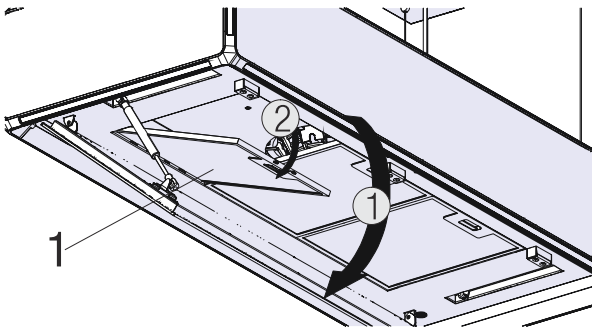

Fig. 34: Removing the metal oil filters
1. ➤ Open the side aspirator (Fig. 34/1).
3. ➤ Open the lock of the metal oil filter (Fig. 34/2) and ensure that it will not fall.
4. ➤ Tilt the metal oil filter forward and lift it out (Fig. 34/3).